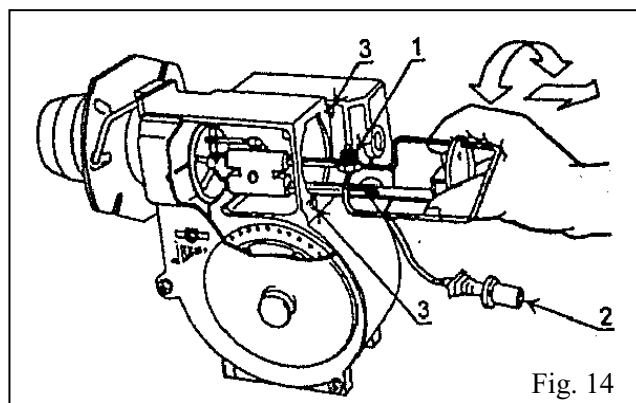

Fig. 14
Removal of nozzle holder assembly (fig.14)
- Take out the photo resistance (2, fig.14)
- Remove the nozzle holder assembly (fig.14)